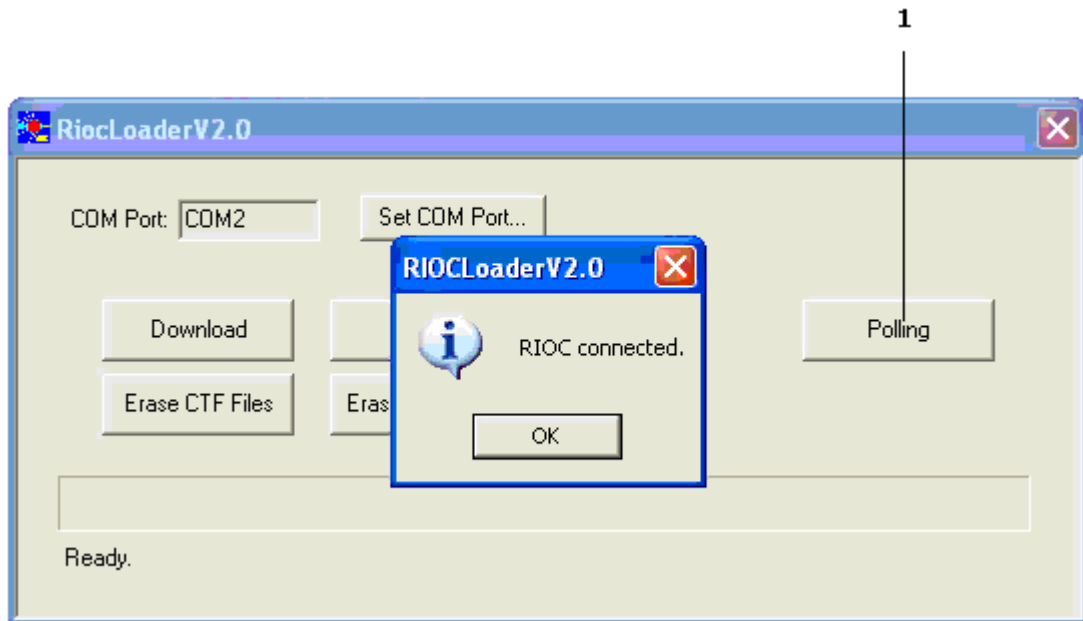

Figure 2
- (9) Wait 20 seconds, then select the Polling button (Ref. Fig 2, Item 1).
- (10) Make sure that the “RIOCI connected” message is shown on the RIOCI Loader V2.0 dialog box (Ref. Fig 2), then click OK.